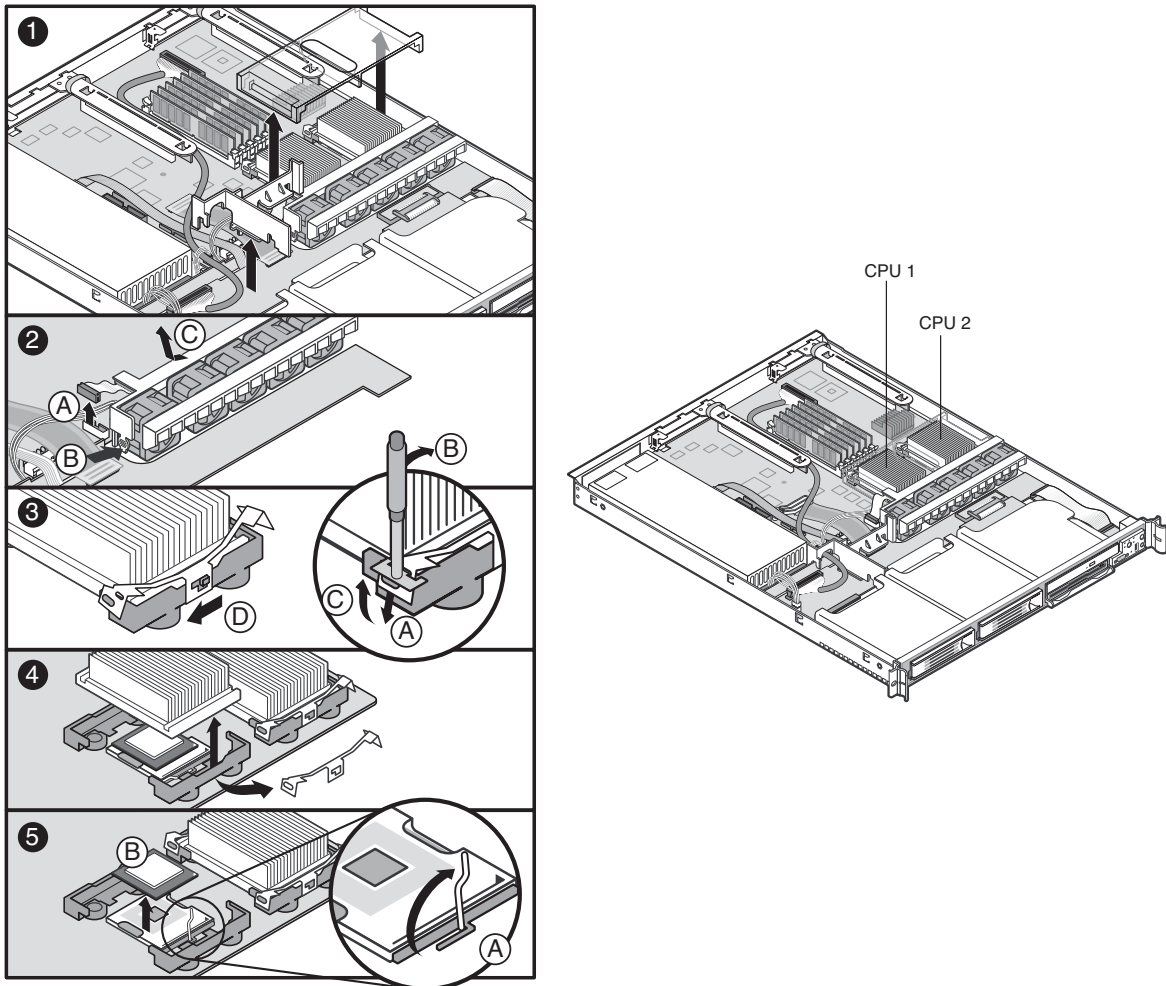

FIGURE 5-10 Sun Fire V60x Server Heatsink and Processor Removal
To remove the heatsink and processor, follow these steps while referring to Figure 5-10:
1. **Remove the plastic air duct that covers the heatsinks and processors (see Figure 5-10).**
2. **Determine the location of the processor you are going to remove (see Figure 5-10).**
3. **As shown in panel 1 of Figure 5-10, remove the processor air duct by lifting it up out of the chassis. Remove the air baffle by wiggling to loosen the tab from the backplane board. Lift the air baffle out of the chassis.**
4. **As shown in panel 2 of Figure 5-10, remove the fan module.**
5. **As shown in panel 3 of Figure 5-10, insert the heatsink retention clip removal tool into the hole in the end of one of the retention clips and then:**